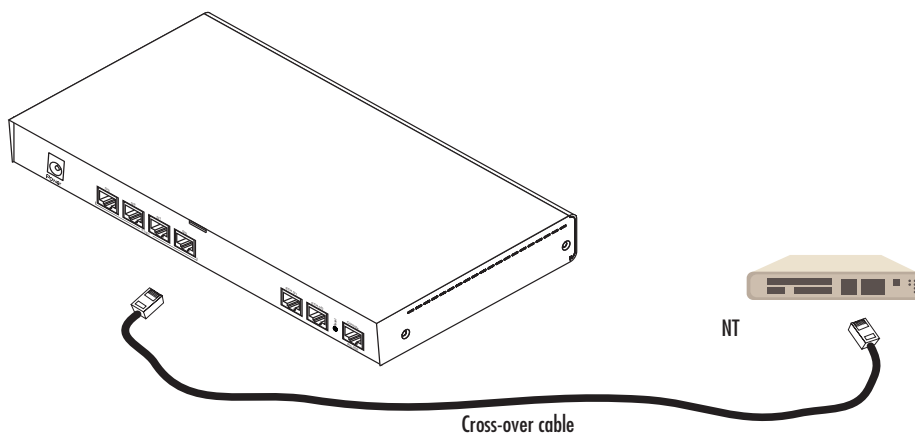

Figure 12. Connecting an E1 PRI port to an NT1
The E1 PRI is usually connected to a PBX or switch—local exchange (LE). Type and pin outs of these devices vary depending on the manufacturer. In most cases, a straight-through RJ-45 to RJ-45 can be used to connect the PRI with a PBX. A cross-over cable is required to connect to an NT device, as illustrated in figure 12 on page 56.